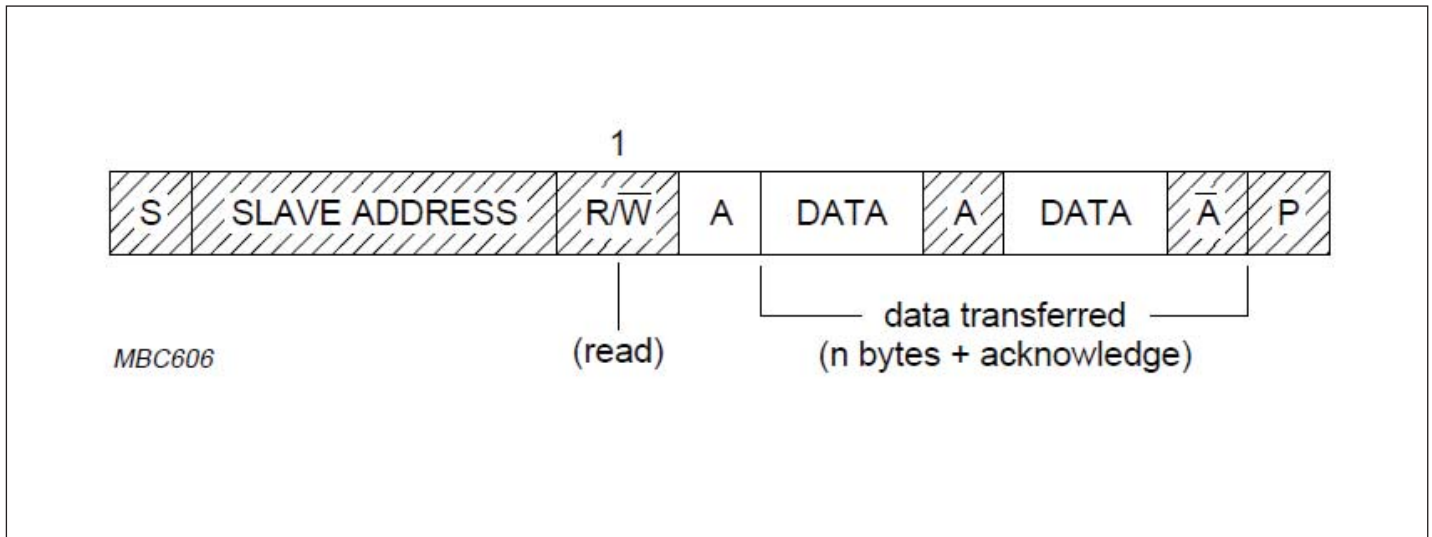

**Figure 1: A Complete Data Transfer**
Data transfers follow the format shown in Fig.1. After the START condition (S), a slave address is sent. This address is 7 bits long followed by an eighth bit which is a data direction bit (R/W) - a 'zero' indicates a transmission (WRITE), a 'one' indicates a request for data (READ). A data transfer is always terminated by a STOP condition (P) generated by the master. However, if a master still wishes to communicate on the bus, it can generate a repeated START condition (Sr) and address another slave without first generating a STOP condition. Various combinations of read/write formats are then possible within such a transfer.